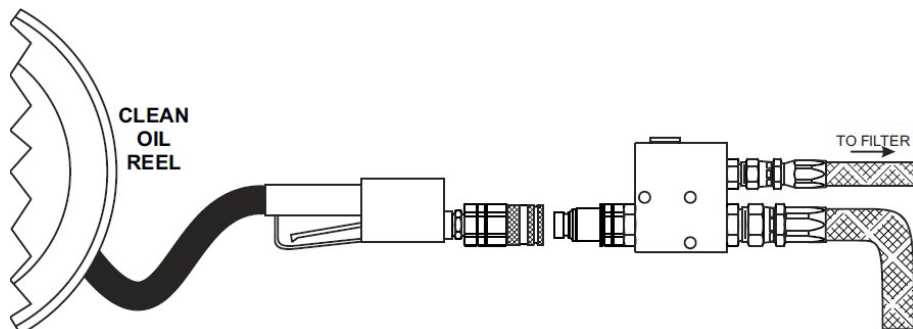

Figure 177. Clean Oil Reel Line
6. To refill the system attached the female quick disconnect from the clean oil reel to the male quick disconnect on the Quick fix valve. Turn the clean oil pump on to refill oil through the new oil filter, when the clean oil pump has finished refilling the oil to refill capacity, remove the clean oil line (Refer to Figure 177).